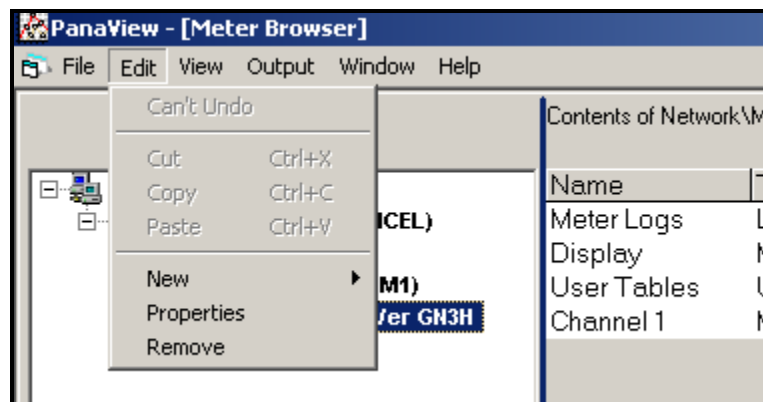

Figure 25: *Properties* Option in the *Edit* Menu
2. Open the “*Edit*” menu and select the “*Properties*” option, as shown in Figure 25 below.